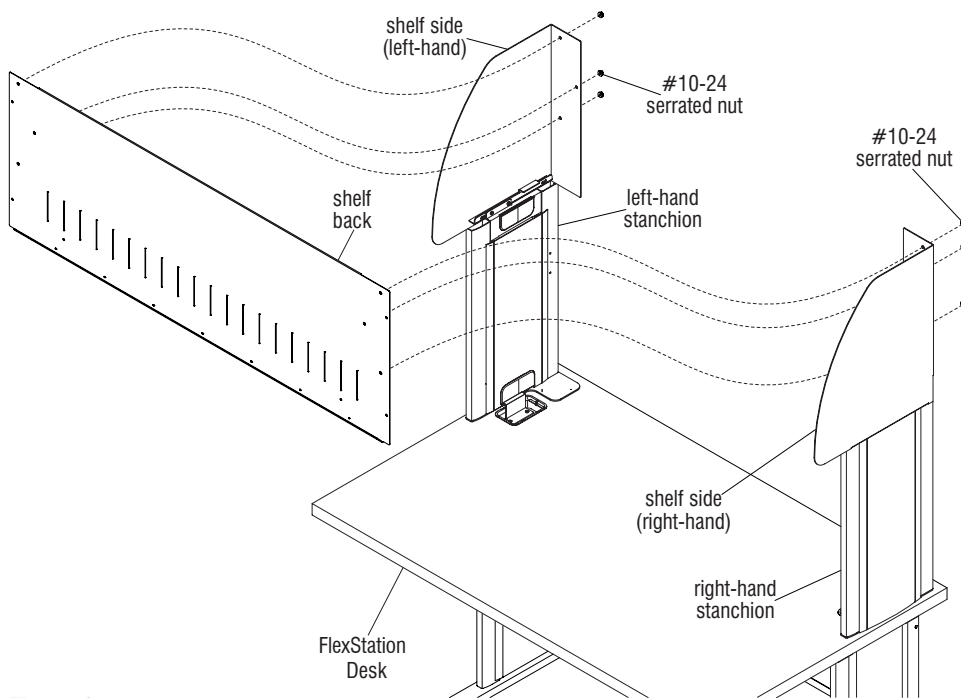

Figure 6
4. Position shelf back as illustrated, with studs facing the rear. Orient the shelf back into position, inserting the studs on the back through the mounting holes in rearflanges of both installed shelf sides. Use six #10-24 serrated nuts to secure back to sides (Figure 6).